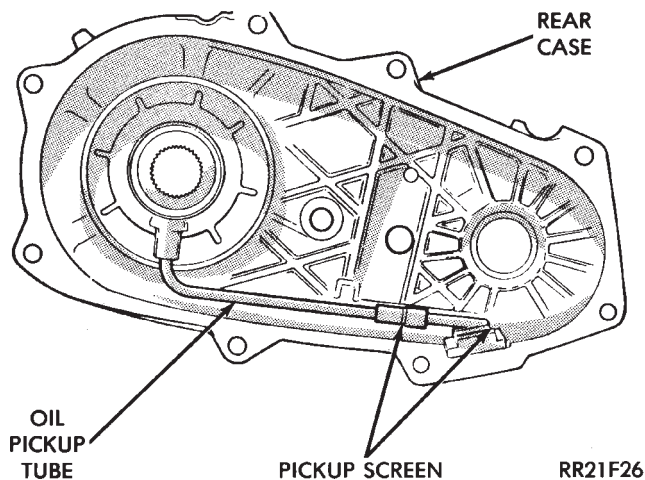

Fig. 6 Removing Oil Screen And Pickup Tube 16
(12) Slide oil screen out of case pocket. Disconnect screen from pickup tube and remove screen (Fig. 6).
(13) Remove pickup tube from oil pump (Fig. 6).